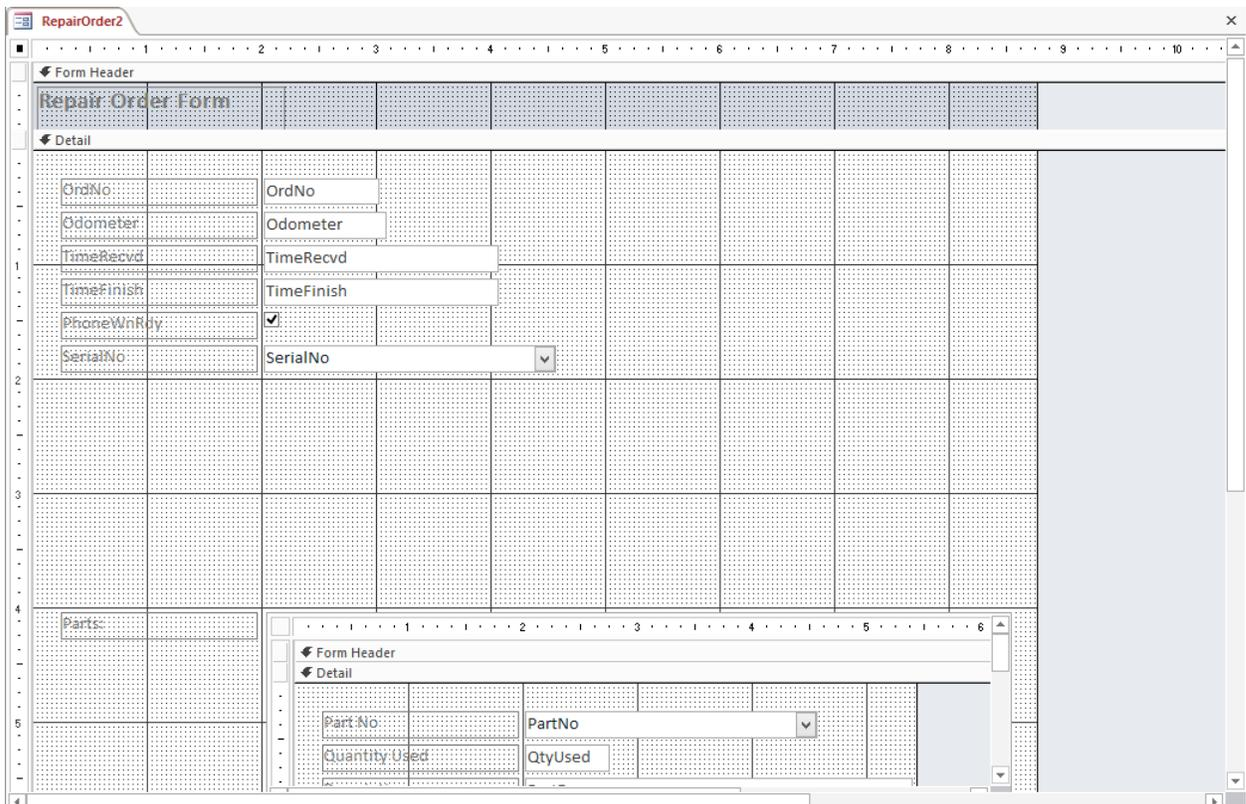

Figure 15: Design View Window for *RepairOrder2* after Changes through Step 6
2. Drag the subform down about two grid boxes. You may need to expand the bottom of the form at the page footer line. Figure 15 shows the arrangement of textboxes and the subform.